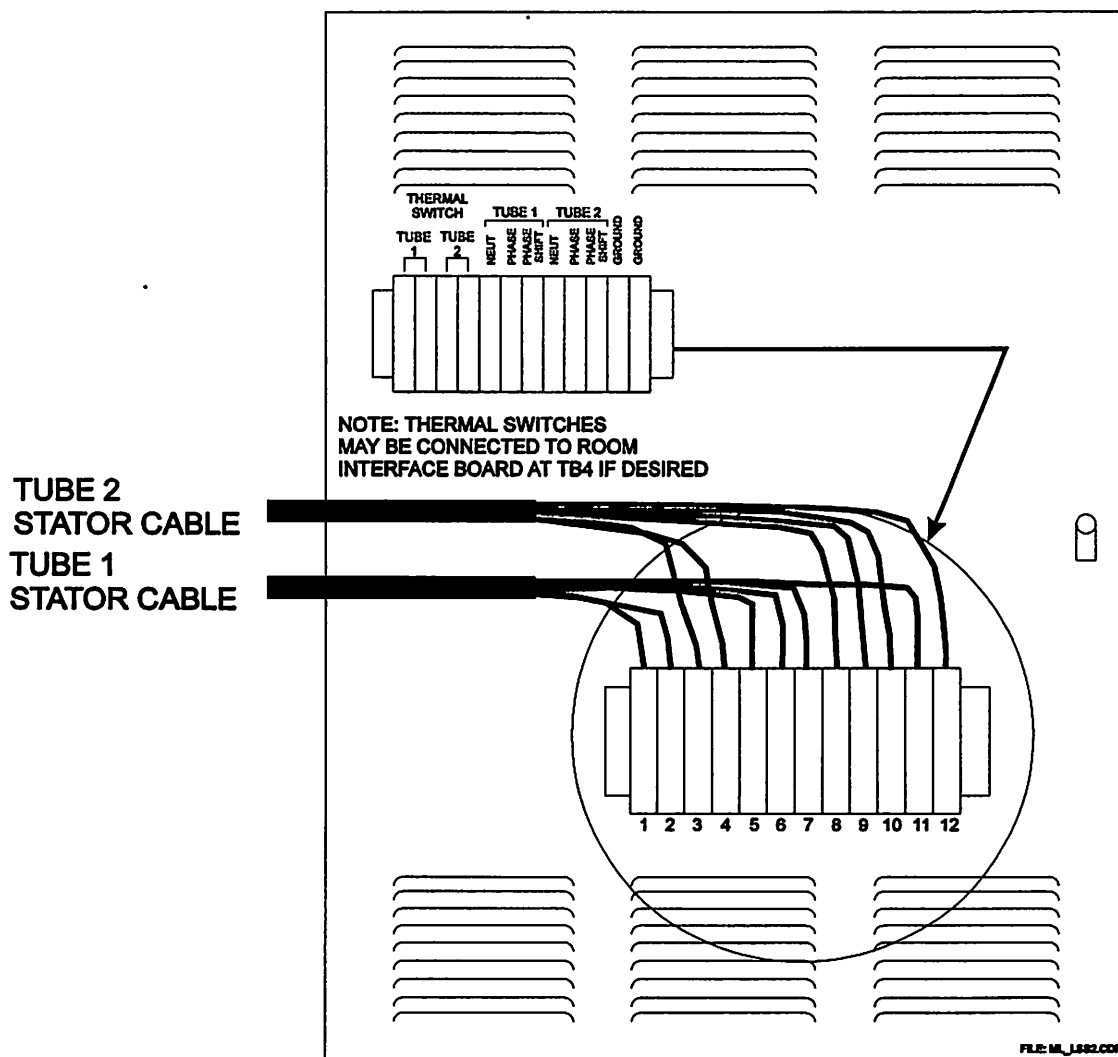

Figure 2-13: Low speed starter connections to generator
Refer to figure 2-13. This section applies only to units fitted with low speed starter.
2. Connect the wires as per figure 2-13. For reference, the terminal assignments are:
5. Connect a true RMS voltmeter (scaled 300 VAC or higher) across the NEUT and PHASE terminals for tube 1 or tube 2 as appropriate on the stator terminal block. Refer to figure 2-13.